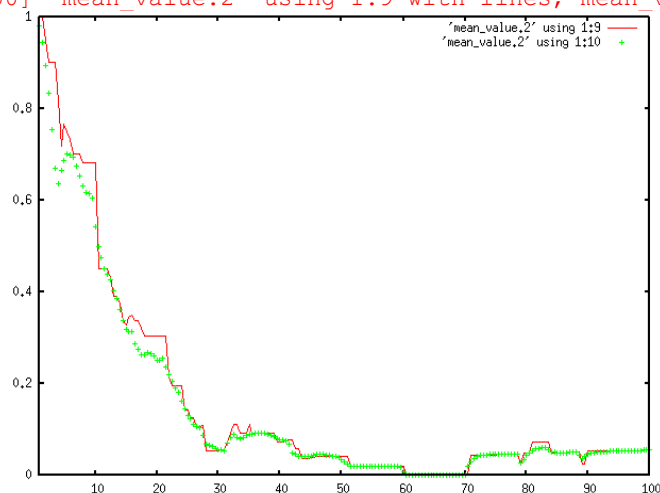

Fig. 11. Fraction of trajectories (solid line) and average adiabatic population (dots) in the second excited state as a function of time.
42. Plot the fraction of trajectories (occupation) and the average adiabatic population for the second excited state as a function of time (Fig. 11).
Fig. 11 shows an exponential decay of the population with a time constant (lifetime) of about 20 fs.